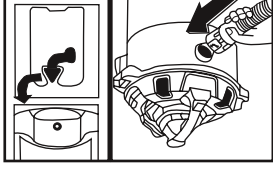

Fig. 10
9. Insert the coupling hose into the container and couple it in place. (Fig. 10)